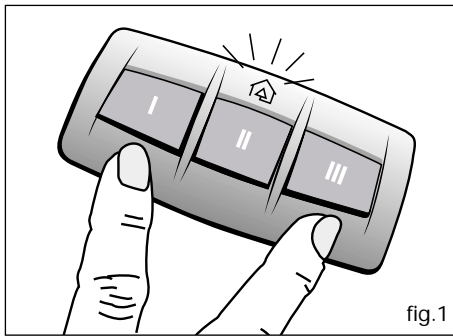

fig.1
- 1) Press and hold the two outer buttons I and III until the diode begins to flash after approximately 20 seconds (fig. 1).